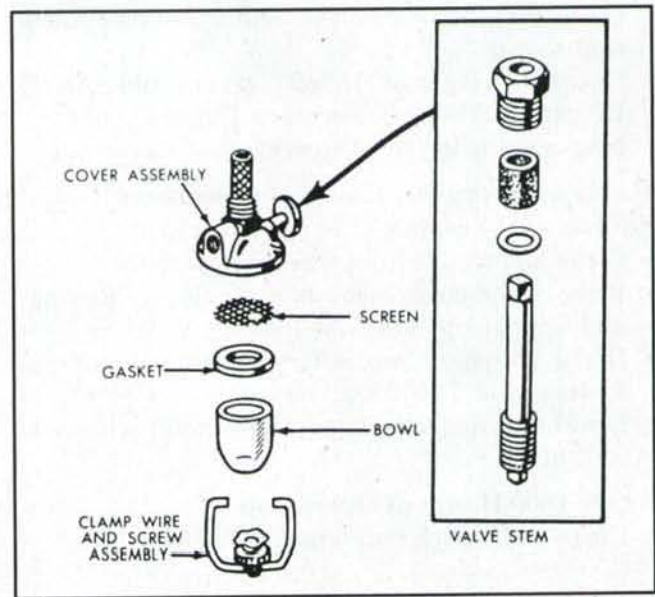

Fig. FO5—Exploded view of fuel shut-off valve and sediment bowl assembly.
5. To clean the fuel tank sediment bowl (Fig. FO5), turn fuel shut-off valve clockwise to closed position.